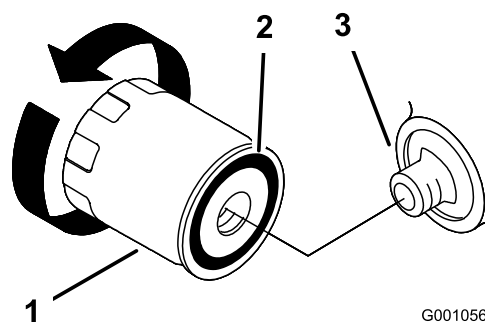

Figure 48
2. Remove the old filter and wipe the surface of the filter-adapter gasket (Figure 48).
5. Apply a thin coat of new oil to the rubber gasket on the replacement filter (Figure 48).
contacts the filter adapter, then tighten the filter an additional 2/3 to 1 turn (Figure 48).